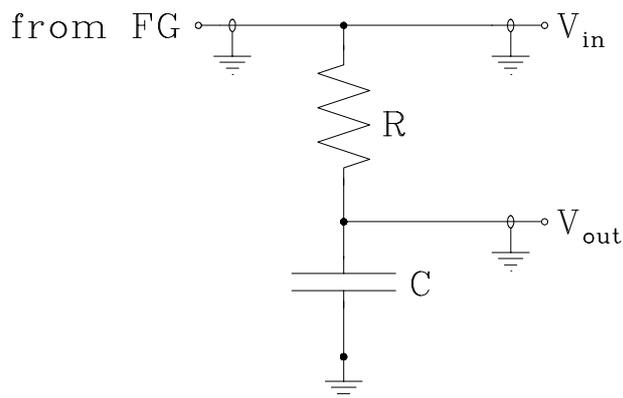

Figure 4.3: Transients measurement setup
Often, the time constant, $\tau = RC$, of the transient is so short that it is impossible to move a mechanical switch, or to measure the voltage using a voltmeter, fast enough to see the exponential decay. Instead, one can use a square-wave output of a function generator (FG) and an oscilloscope, to monitor both V_{in} and V_{out} , as in Figure 4.3. **Note** that in the above circuit, all the BNC ground connections are already made by the protoboard; only the capacitor needs to be grounded.
- ⓘ Construct the circuit of Figure 4.3 with $R = 10\text{k}\Omega$ and $C = 0.01\mu\text{F}$, using the proper breadboarding technique. Drive it with a 1 KHz square wave of 5 Vpp (peak-to-peak). Adjust the DC offset voltage on the FG so that the signal toggles between 0 V and 5 V. Obtain a stable trace and record a graph of the voltage as a function of time on both channels of the scope, for one full period of the square wave.